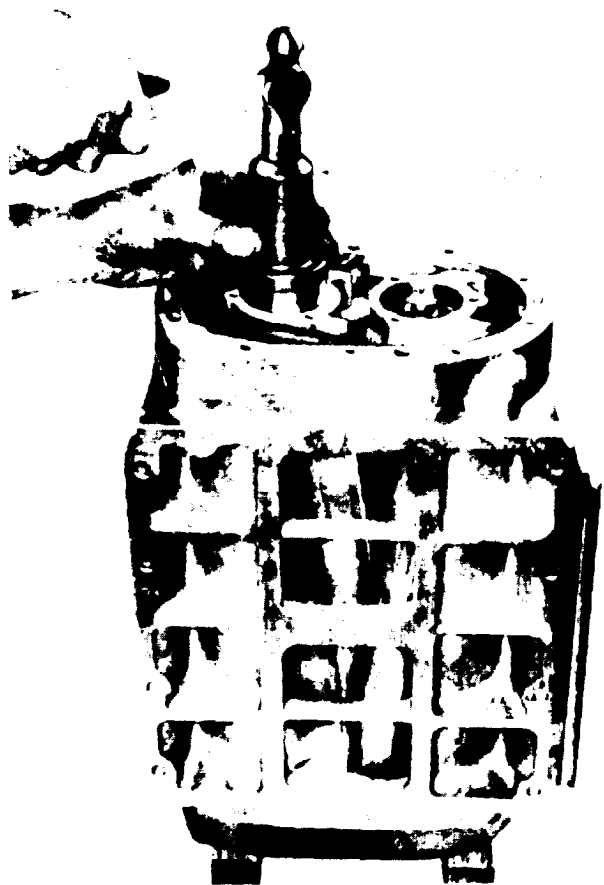

Figure 11D-17. Installing Bearings in End Plate
- A. Reverse the position of the blower housing on the two wood blocks (see Figure 11D-18 on page 11D-13).